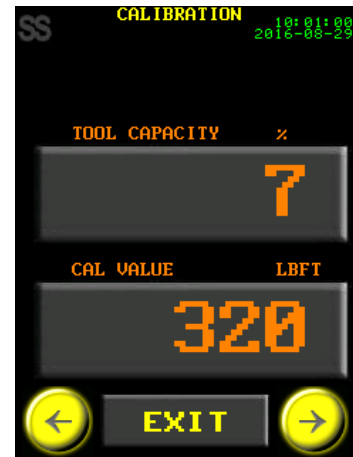

Figure 6-4: Calibration Mode
6. The 7% Calibration screen will be displayed (Figure 6-4).
10. Press the "Cal Value" field on the Calibration Screen (Figure 6-4).